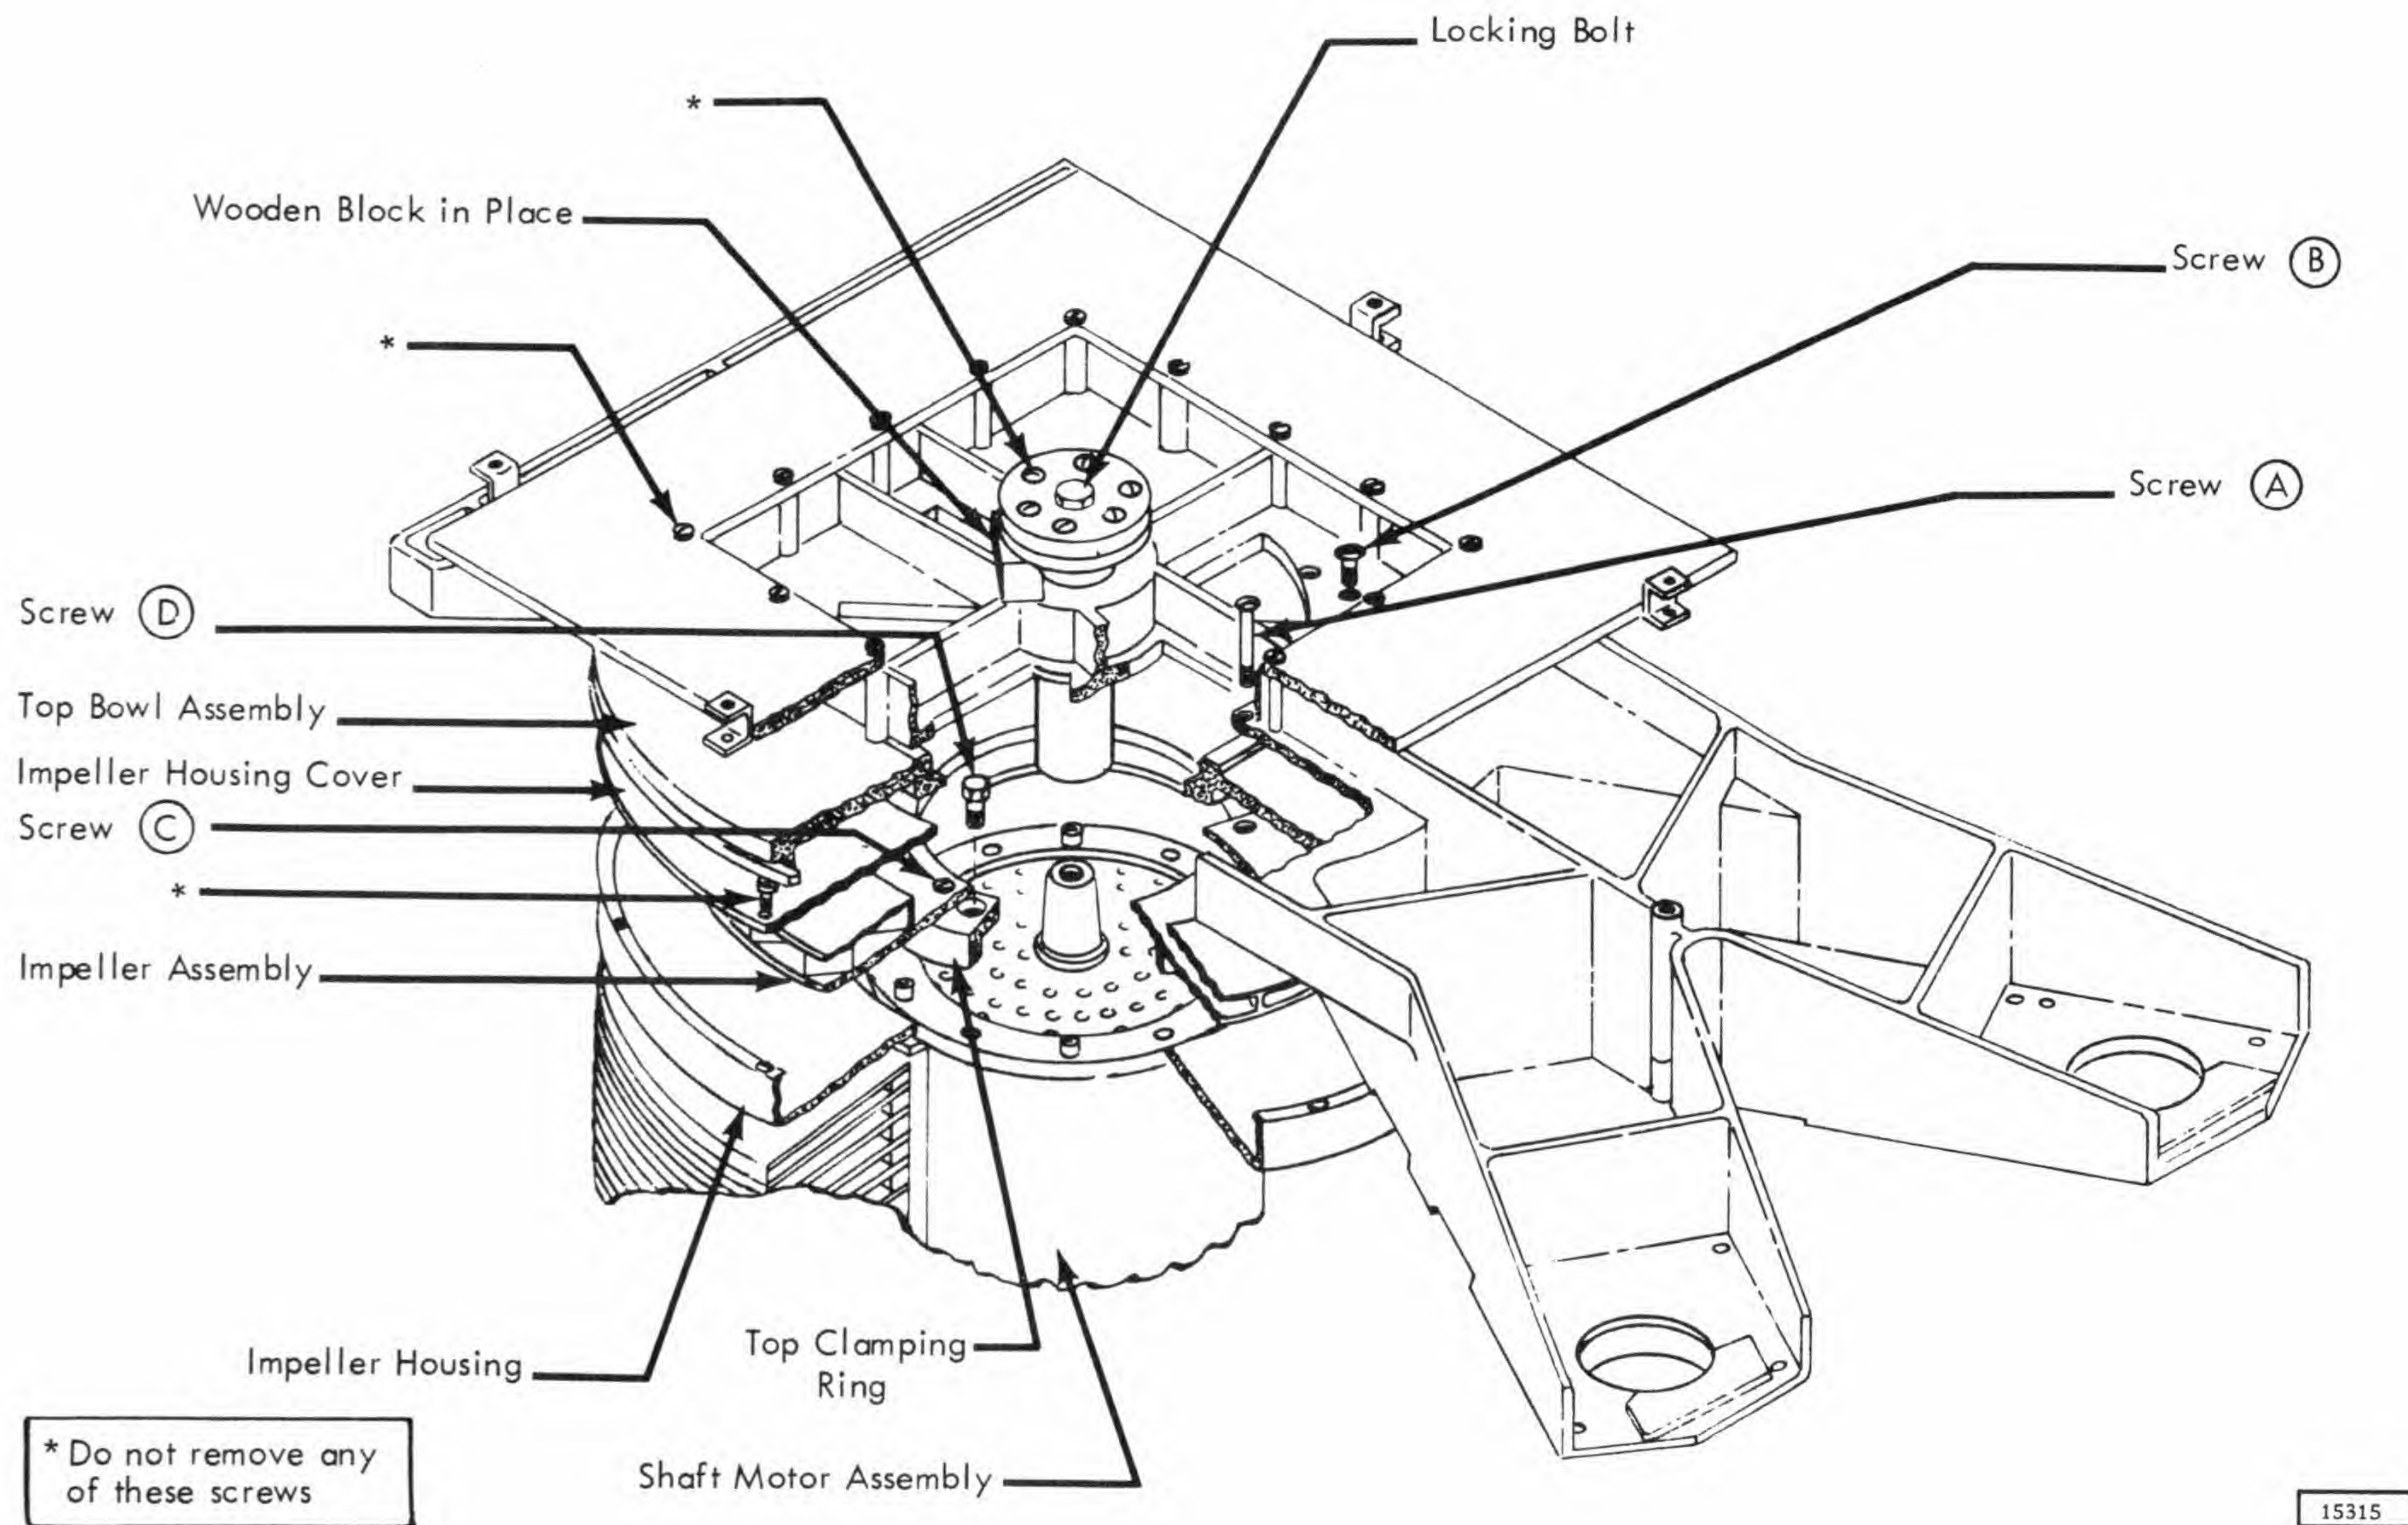
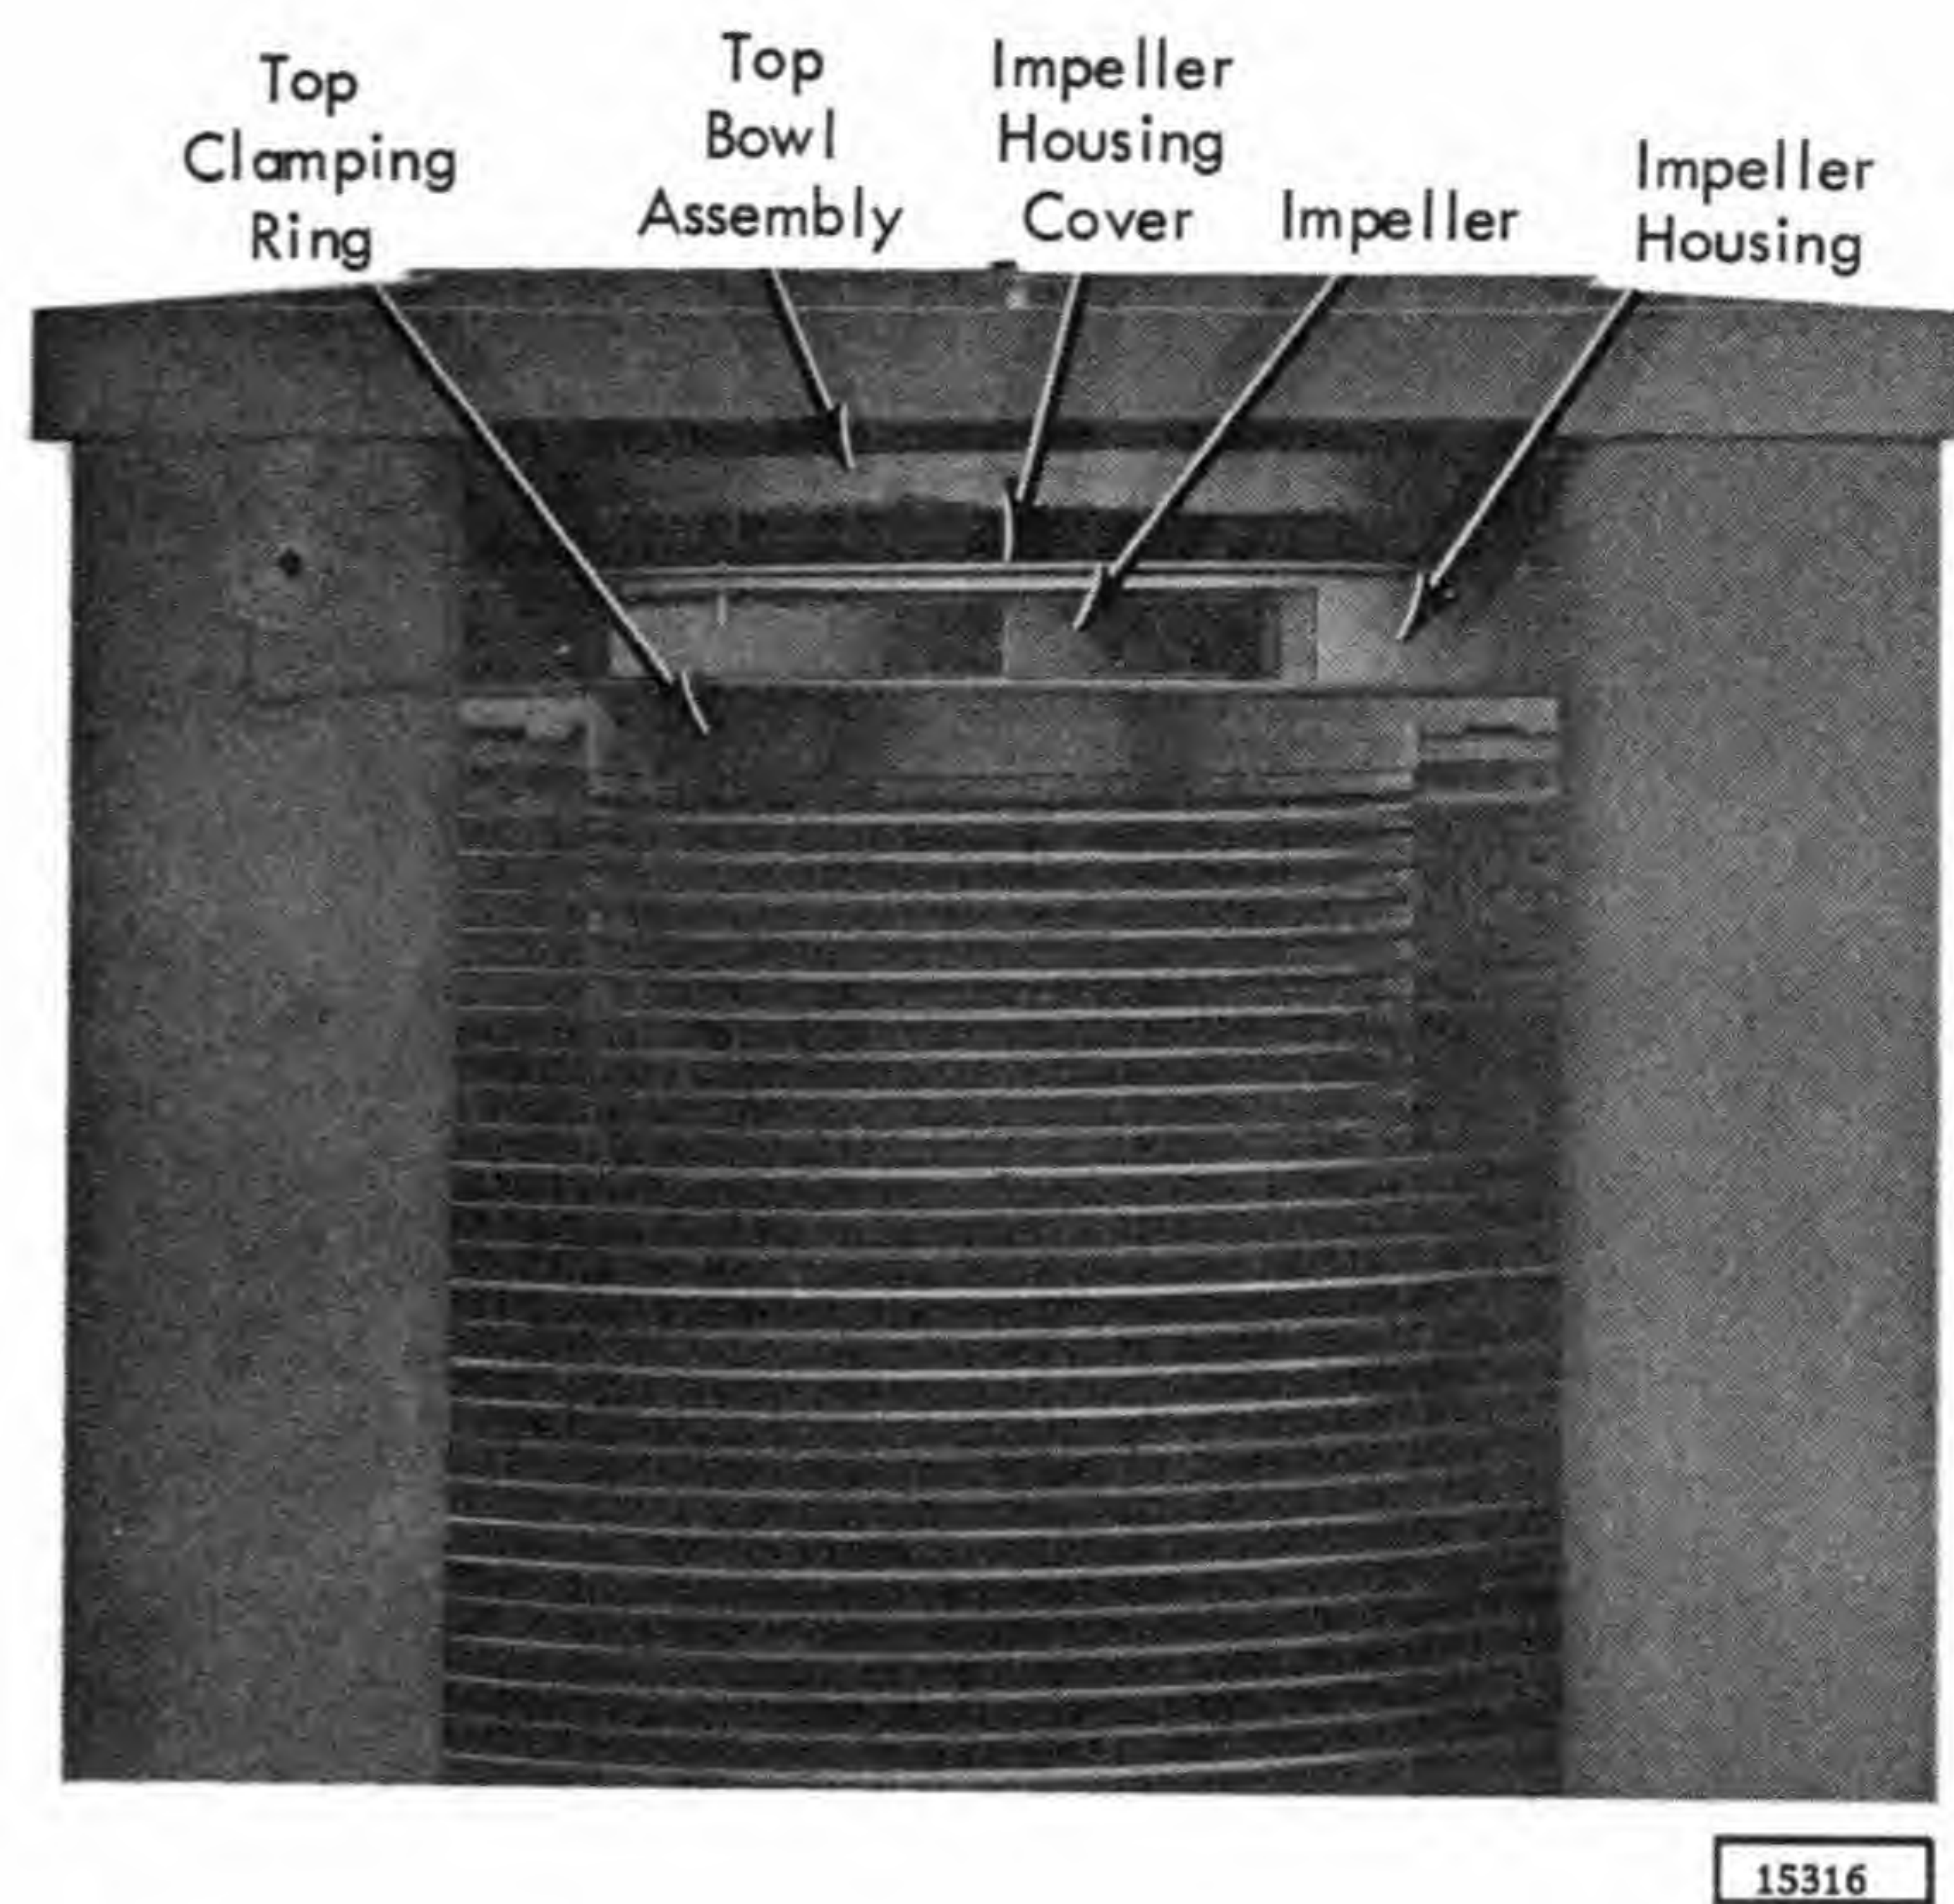

Figure 4-11. Disk Array Disassembly
Figure 4-12 Disk Array Assembled
13. Remove the six screws (Item A, Figure 4-11) which fasten the impeller housing assembly to the top casting.
14. Remove four screws (Item B, Figure 4-11) which fasten top bowl assembly to top casting. Remove top bowl through front of the machine (Figure 4-12).
15. Remove four screws (Item C, Figure 4-11) which fasten impeller to top clamping ring. The impeller housing cover, impeller housing, and impeller can be removed through the front of the machine as an assembly (Figure 4-12).
16. Remove the six disk clamping ring screws (Item D, Figure 4-11) and the clamping ring.